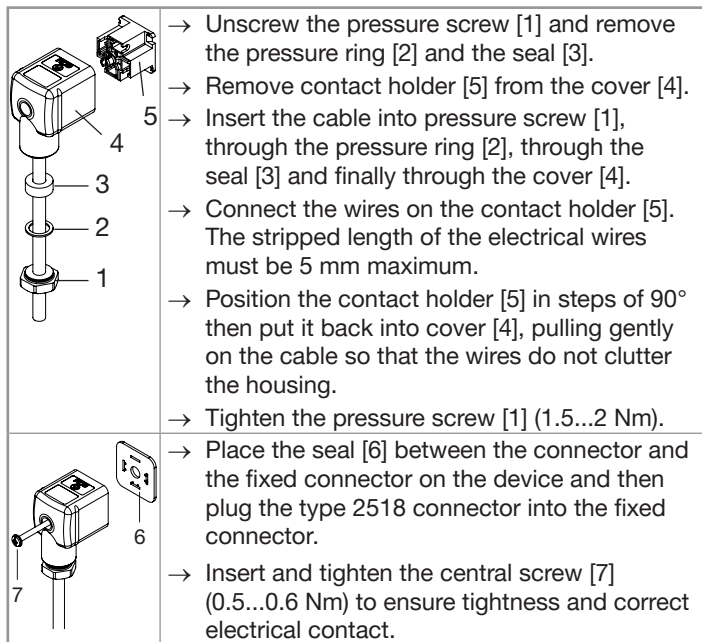

Fig. 6: Assembling the female connector type 2518 (supplied)
- Unscrew the nut [1] (see Fig. 6) on the female connector type 2518 supplied with the device.